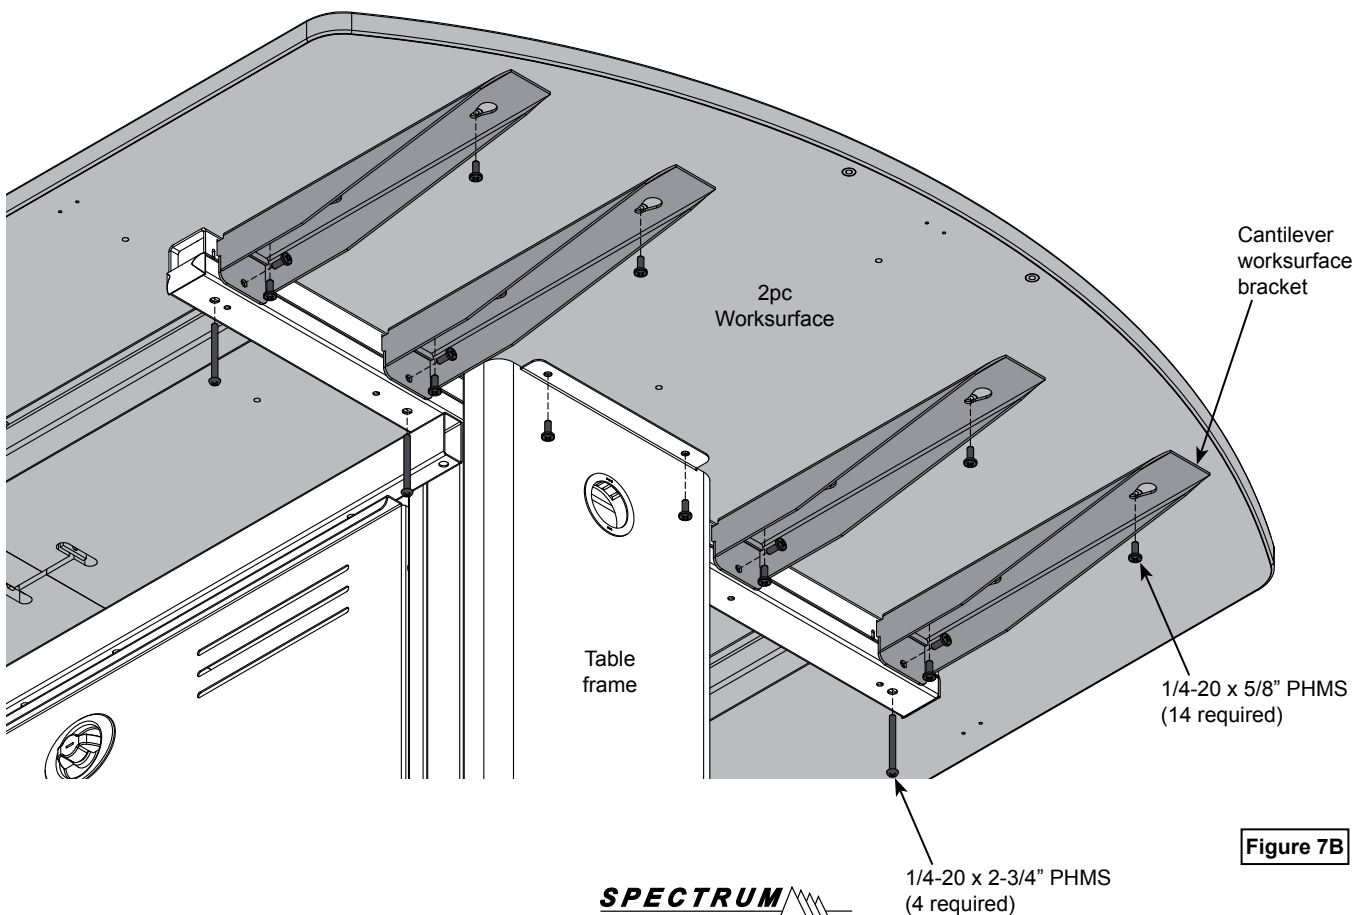

Figure 7B
2. Install (4) 1/4-20 x 2-3/4" PHM screws into the legs as shown to secure the worksurface. **Figure 7B.**
3. Install (14) 1/4-20 x 5/8" PHM screws as shown.